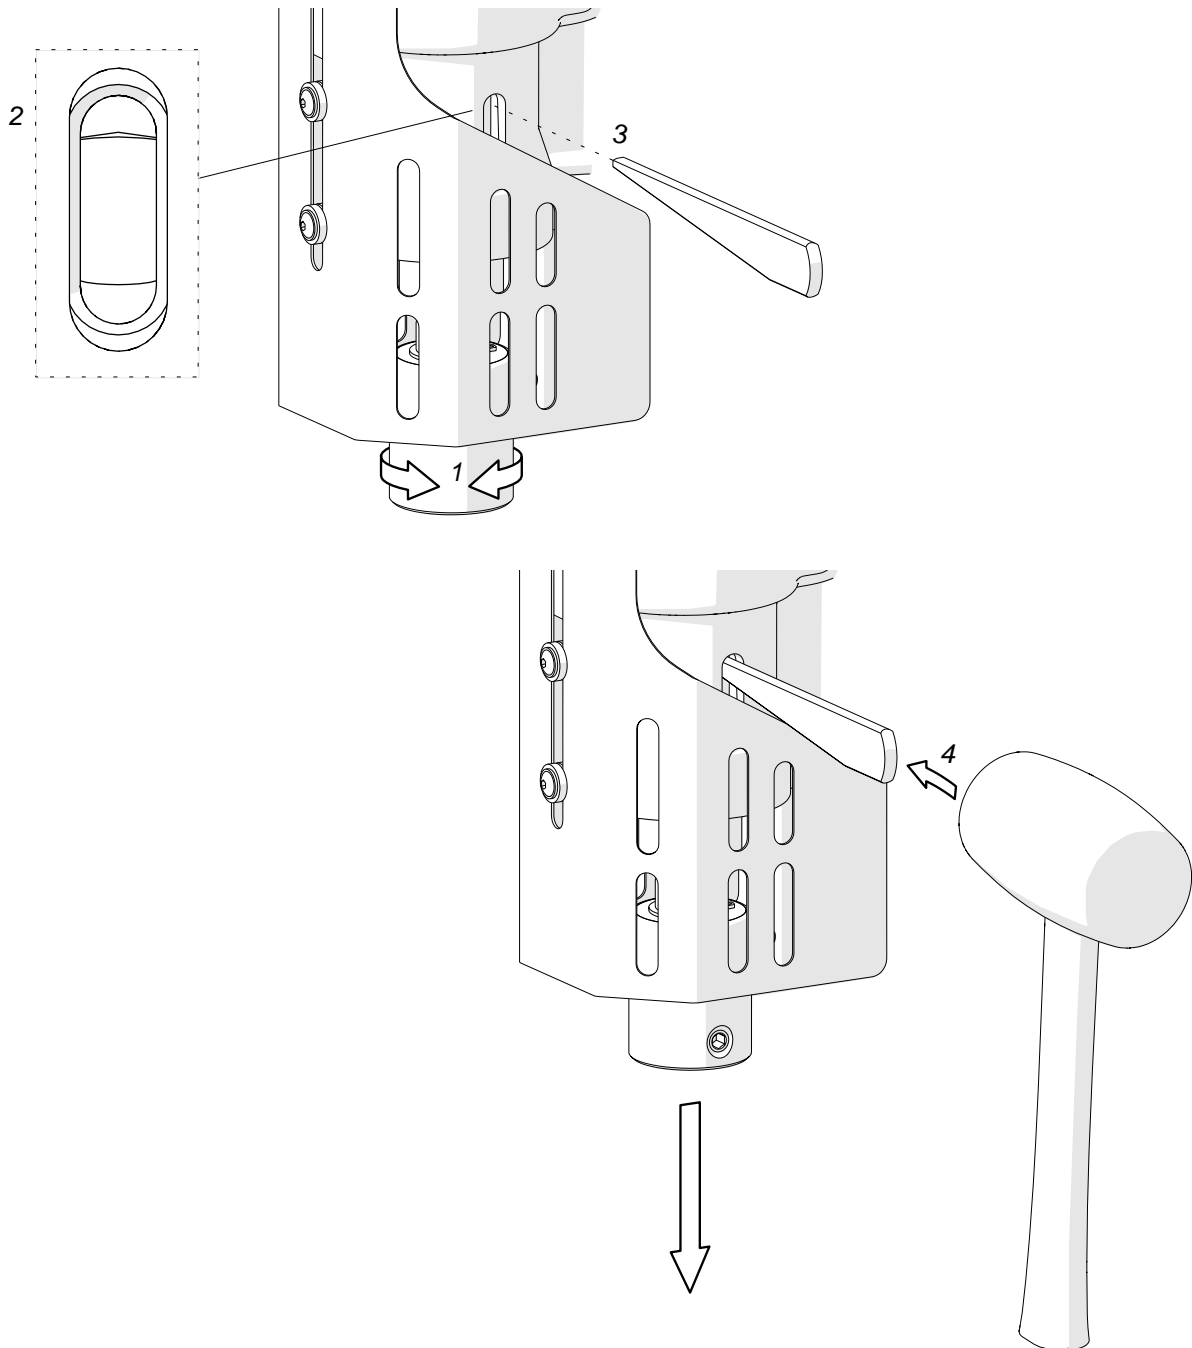

Fig. 3. Removing the arbor (twist drill bit)
To remove the arbor (drill bit), raise the motor, and then rotate the spindle (1, Fig. 3) in such a way to align the openings in the spindle and gearbox (2). Next, insert the MT2 drift (3) into the opening above the arbor (drill bit), hold the carrying handle with one hand, and then tap the drift using a mallet (4).